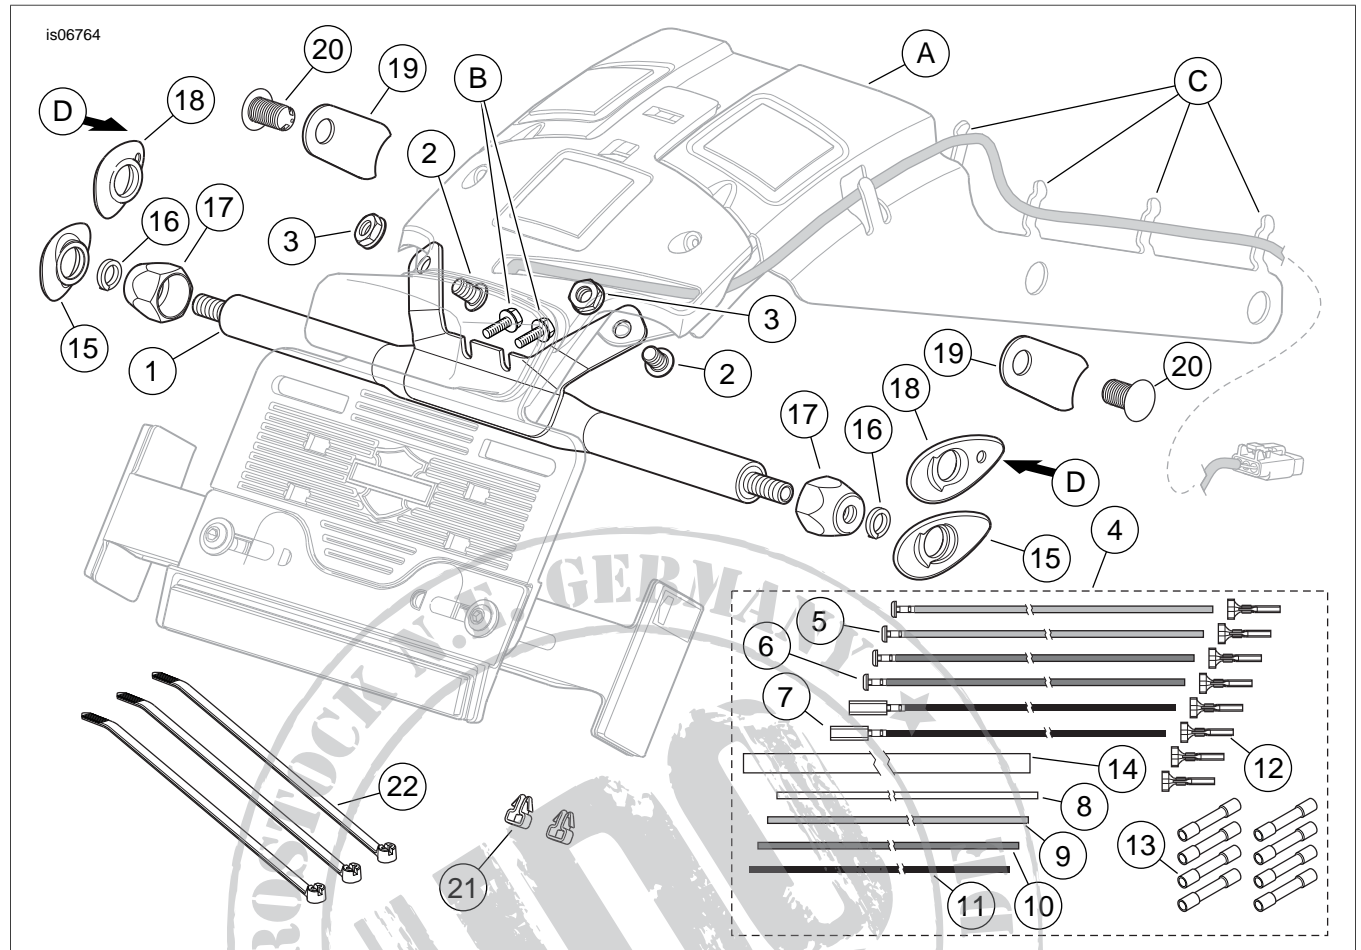

Figure 3. Service Parts, FXS Tail/Stop/Turn Signal Relocation Kit
1. See Figure 3. Loosely install a black painted jam nut (17) onto one of the threaded studs on the light bar weldment. Place a lockwasher (16) onto the stud, against the jam nut. Place a black recess cover (15), in the orientation shown, onto the stud.
2. Insert the STT lamp wires through the small hole in the black rubber recess cover (18) in the direction shown (D).
3. See Figure 3. Loosely install a black painted jam nut (17) onto one of the threaded studs on the light bar weldment. Place a lockwasher (16) onto the stud, against the jam nut.
1. See Figure 3. Feed the right side STT lamp wiring following the path of the license plate illuminator wiring through the channel and behind the four clips (C) on the license plate module support assembly (A), toward the front of the fender and out through the wire pass-through hole in the fender.